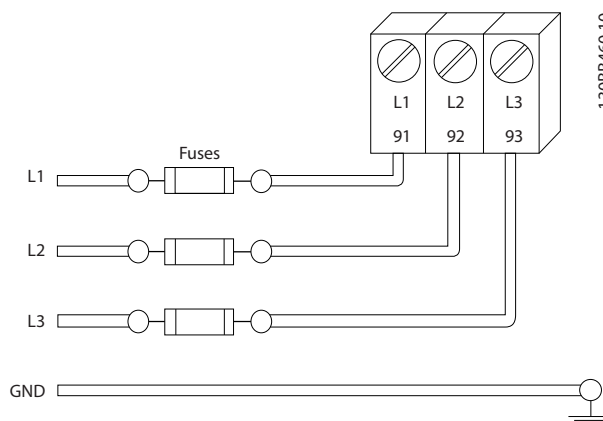

Figure 2.6 Adjustable Frequency Drive Fuses
- All adjustable frequency drives must be provided with short-circuit and overcurrent protection. Input fusing is required to provide this protection, see Figure 2.6. If not factory supplied, fuses must be provided by the installer as part of installation. See maximum fuse ratings in 10.3 *Fuse Tables*.